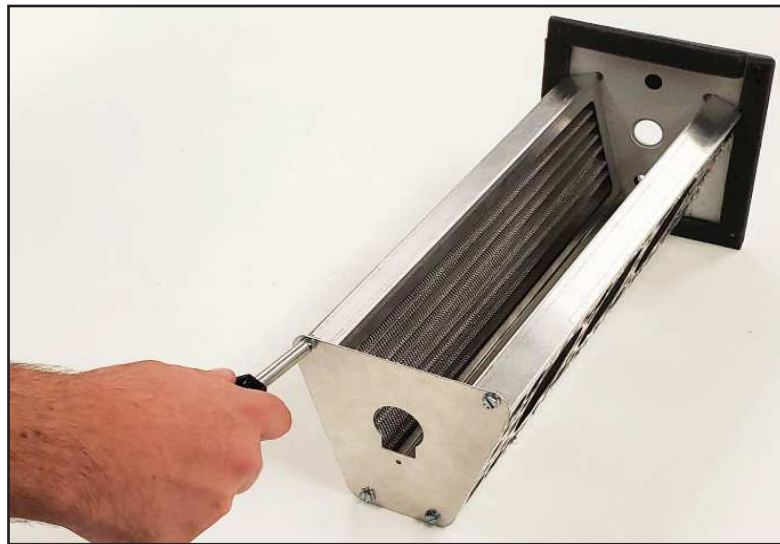

Figure 12
4. Unscrew the end bracket by removing the hex screws, See Figure 12. Save the hex screws for reattaching the end bracket. The end bracket is located on the opposite side of the Model than the power source.